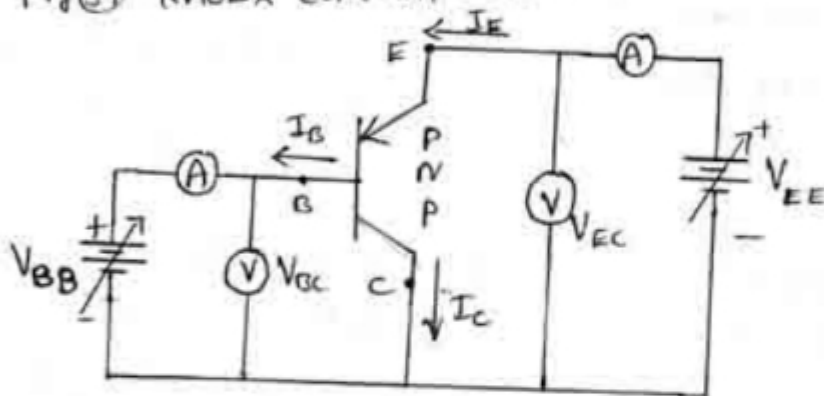
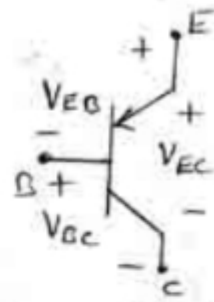

Fig 37: Common Collector PNP transistor
Fig 38: Common collector CRT
Fig 37 shows Common Collector PNP transistor
① Applying KVL around the transistor, (Fig 37) or Fig 38)
- Current gain characteristics can be obtained experimentally (Fig 37) or derived from the output characteristics (Fig 41)
- ① Keeping V_{EC} constant at Particular Value, I_E is measured for various levels of I_B .
- ② A graph of I_E vs I_B is plotted.